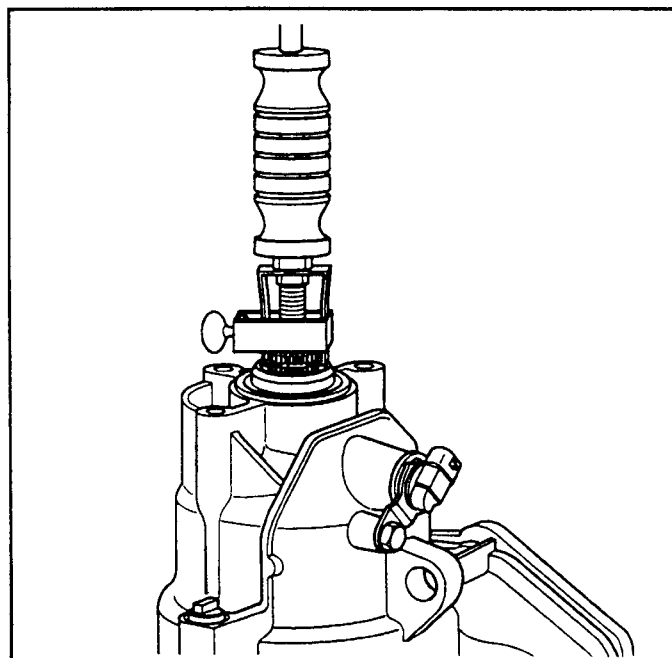

Figure 45
9. Attach slide hammer to the shaft removal tool J-38868 (See Figure 45).
10. Install the stub shaft removal tool into the snap ring groove on stub shaft, and tighten the shaft removal tool securely to the stub shaft, shown in Figure 45.